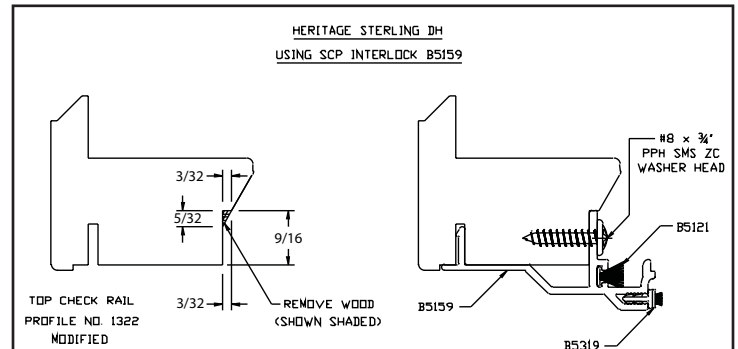
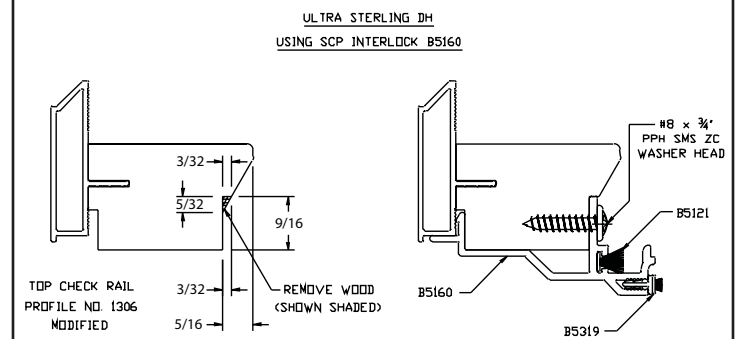

Fig. 3
Fig. 4
- Set up table saw. Follow the specs shown in Fig. 3 or 4 & 5.
- * Use Fig. 3 if you have a Heritage unit & use Fig. 4 if you have an Ultra unit.
- See Fig. 5. Make cut on sash to remove shaded area shown in Fig. 3 & 4.